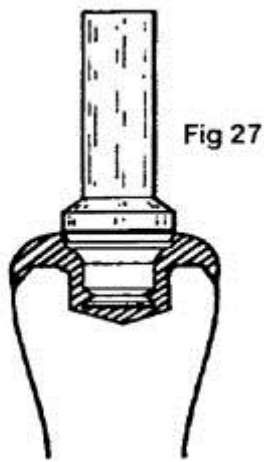

Fig 27
5. Wax the Cast-to Female directly into the die. The stainless steel should be completely encased with a layer of wax up to, but not over the junction of the plastic Paralleling Post (Fig 27). Use a hard wax so the female will be held securely when removing the Paralleling Post.